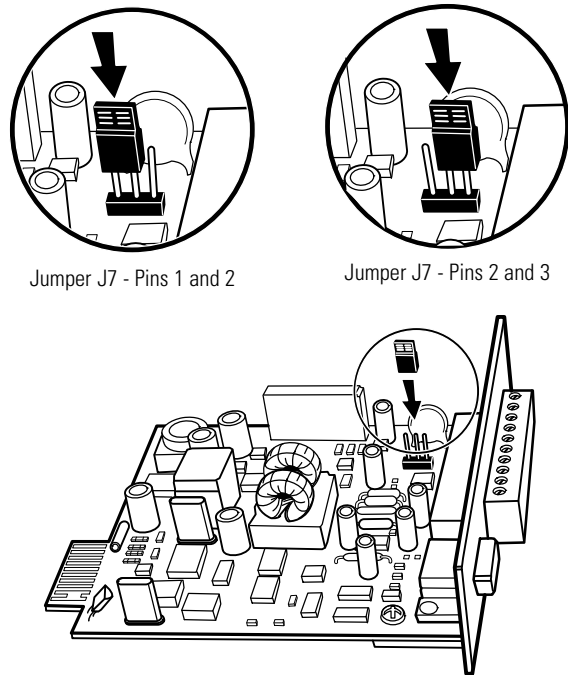

Figure 49. Setting the CAN Bridge Card Jumper J7 (Side View)
4. Set the jumper pins on the Powerware Hot Sync CAN Bridge Card according to the parallel configuration (see Figure 49):